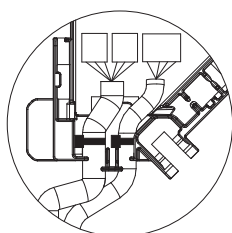

Fig. 6-16
- Make sure that the band securing the i-See sensor and signal receiver junction wires is positioned inside the connector box. (Fig. 6-16)